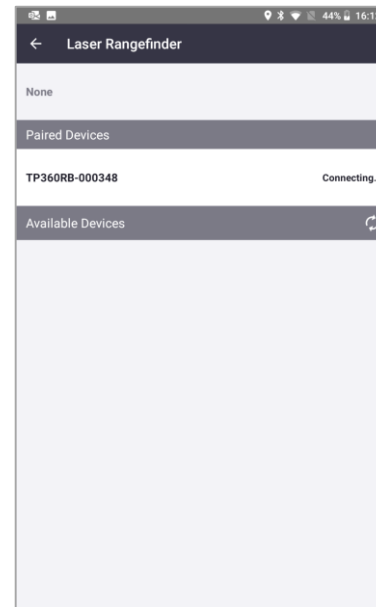

Figure 3
3. From the list of **Available Devices**, pick the desired laser to connect to it (Figure 3)